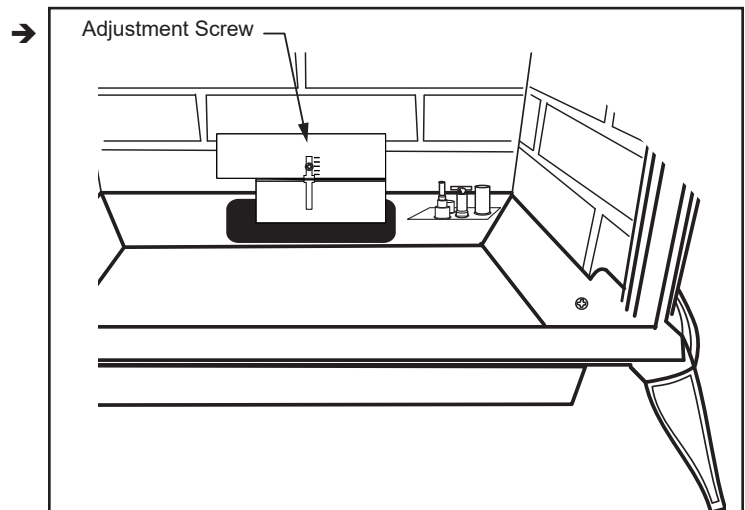

Figure 2.9 - Loosen screw to adjust restrictor plate.
The Radiance stove is shipped with a restrictor plate in the Parts Bag. Adjustments can be made by loosening the adjustment screw to allow the restrictor plate to slide up or down. (Figure 2.9) A guide for usage is shown in Figure 2.10.
- Install restrictor plate as shown in Figure 2.9 with cut out on left side. Secure with adjustment screw.
- Measure from center of screw to top edge of diverter (Figure 2.9) to adjust plate according to guidelines in Figure 2.10.